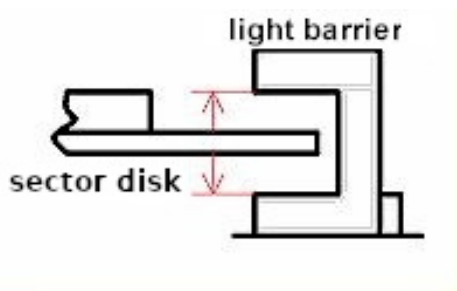

Figure 14 Ensure correct alignment of sector disk and light barrier.
- Take care of the correct alignment of the sector disk and the optical sensors, see figure 14.